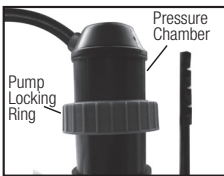

Figure 3
4) Loosen pump locking ring and remove entire pump assembly from tank (Figure 3).